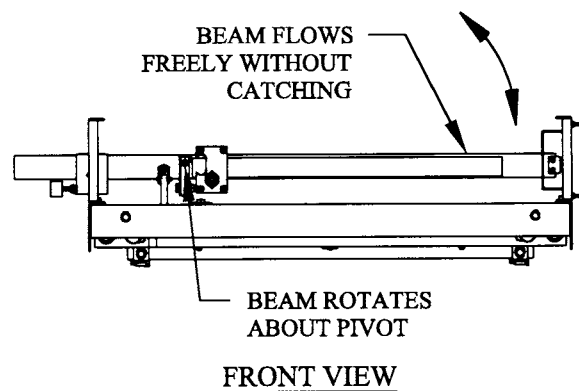

FIG. 13
D) Beam flows freely without catching. See Fig. 13.